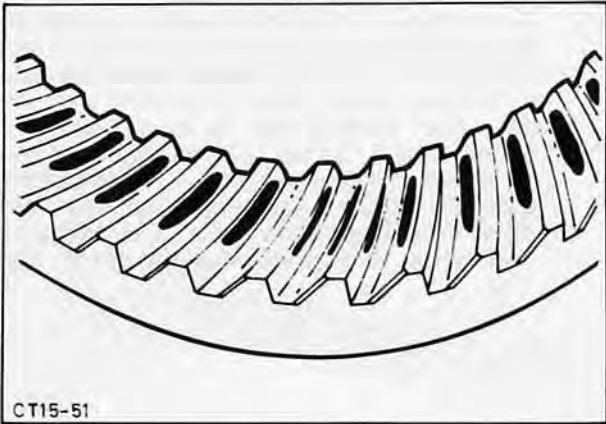

Fig. 126. Optimum tooth pattern
36. Check tooth pattern: New crown wheels will still show marks of optimum tooth pattern left during testing at the factory, Fig. 126.